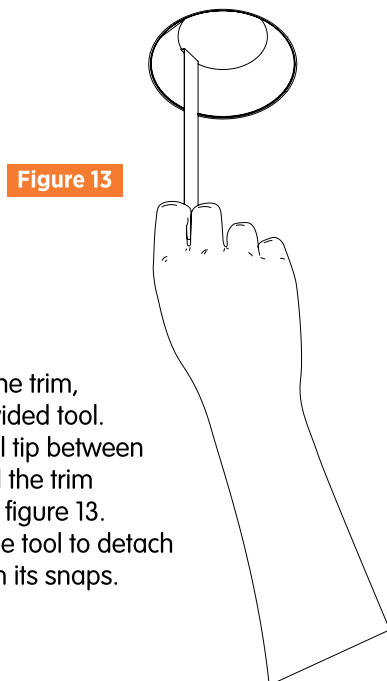

Figure 13
13. To remove the trim, use the provided tool. Slide the tool tip between the lens and the trim as shown in figure 13. Pull down the tool to detach the trim from its snaps.